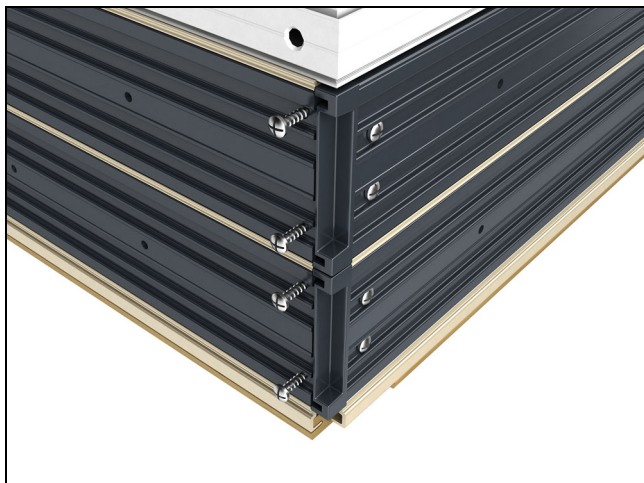

Figure 123
3. Fasten head jamb to side jamb using #8 x 1 1/4" pan head screws. See figure 123.